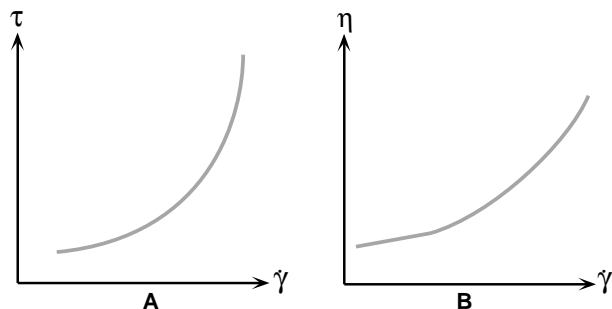

Figure 4-4
**DILATANT:** Increasing viscosity with an increase in shear rate characterizes the dilatant fluid; see Figure 4-4.